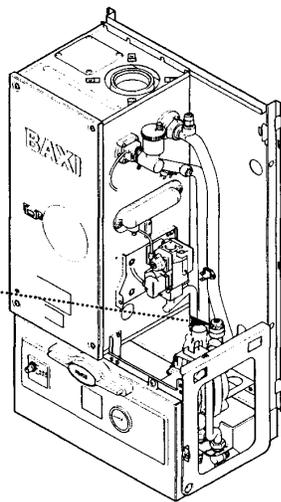

Fig. 10
**6.8 Pressure Relief Valve** (Figs. 10 & 11)